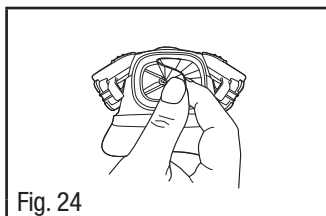

Fig. 24
2. Remove exhalation valve by grasping valve and pulling valve off the center post. (Fig. 24).